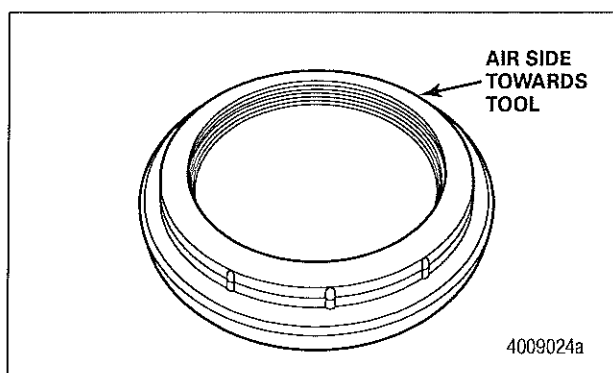

Figure 19
- A. Lubricate the seal according to the following recommendations, then place the seal with the "AIR SIDE" towards the installation tool, Stemco® tool number 551-5412. Figure 19.